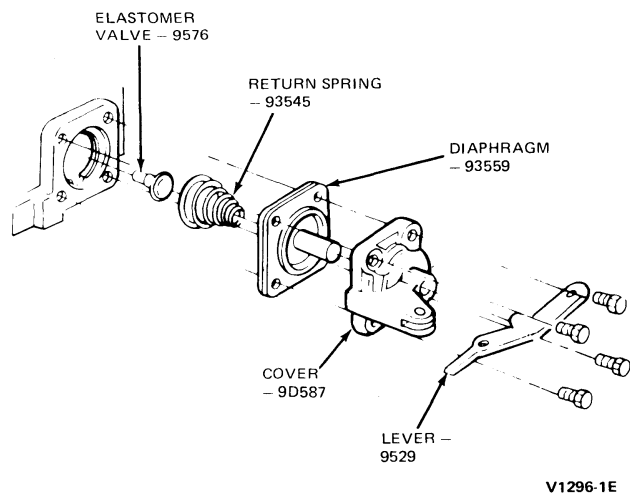

FIG. 27 Accelerating Pump Assembly
Note: The two retention screws for the left side are longer. Remove the accelerator pump cover, diaphragm assembly and spring (Fig. 27, 32 and 33).
5. Remove the accelerator pump cover attaching screws. Remove the vent valve actuating lever, if equipped. Note: The two retention screws for the left side are longer when a mechanical vent valve is used. Remove the accelerator pump cover, diaphragm assembly and spring (Fig. 27).
11. Install the accelerating pump diaphragm return spring on the boss in the chamber (Fig. 27). Insert the diaphragm assembly in the cover and place the cover and diaphragm assembly into position on the main body. Install the right hand (shorter) cover screws finger tight.